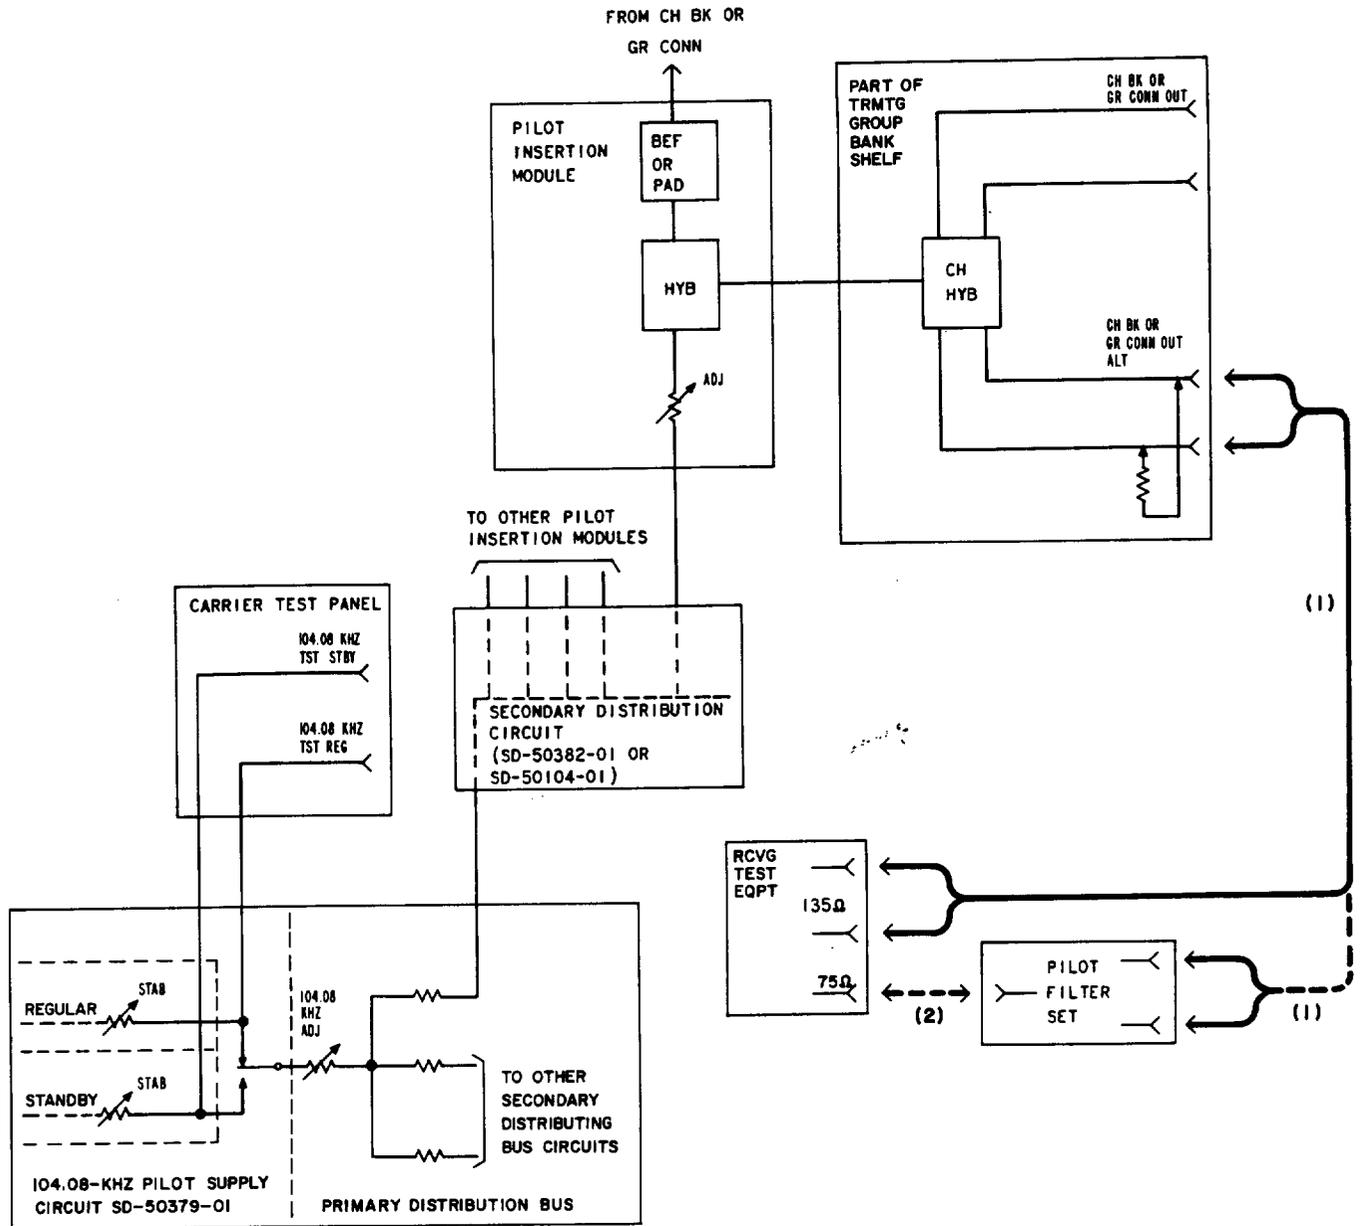

Fig. 1—Transmitting Circuits—104.08-KHZ Group Pilot—In-Service Adjustment
<p>Caution: The channel 2 carrier frequency is 104 kHz resulting in a pilot frequency offset of 80 Hz. Carrier leak into the pilot insertion module will normally be -75 dBm or less. If a 49A TMS is not available, a J68858AT pilot filter set should always be used to avoid selecting any tone other than the 104.08-kHz pilot, such as carrier leak or an SF tone. The pilot filter set is covered in Section 103-407-101.</p> <p>1 Prepare the receiving test equipment for a 135-ohm terminated measurement of 104.08 kHz at -62 dBm.</p> <p>Note: If the J68858AT pilot filter set is used, prepare the equipment for a 75-ohm terminated measurement at -72 dBm.</p> <p>2 Patch the test equipment to the CH BK or GR CONN OUT ALT jacks [patch (1) in Fig. 1].</p> <p>Note: If the J68858AT pilot filter set is used, make patches (1) and (2).</p> <p>3 Measure the power of the 104.08-kHz signal.</p> <p>Requirement: -62 dBm \pm0.05 dB (if the 49A TMS is used). -72 dBm \pm0.05 dB (if the J68858AT pilot filter set is used).</p> <p>4 If the requirement of Step 3 is met, proceed to Step 18. If it is not met, proceed to Step 5.</p> <p>5 From office records, determine the group pilot application for the channel bank under test and perform (a) or (b), as applicable.</p> <p>(a) If the circuit is arranged for a through pilot from a group connector, perform tests as prescribed in Section 356-020-502 (currently Section 356-240-511).</p> <p>(b) If the pilot is inserted or blocked and reinserted, proceed to Step 6.</p> <p>6 Slowly adjust the ADJ control on the pilot insertion module to meet the requirement of Step 3.</p>
18	<p>Remove patch (1) in Fig. 1.</p> <p>Caution: Interaction may occur between the J68857P pilot insertion modules fed by the same secondary distributing bus. When several of these modules are adjusted, recheck one or two of the first modules to verify that the measured levels have not changed.</p>